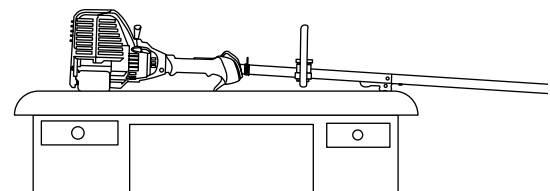

Fig. 26
2. Place the engine on a flat, level surface with the cutting head shield hanging off a work bench or table to get a proper oil level reading (Fig. 26).